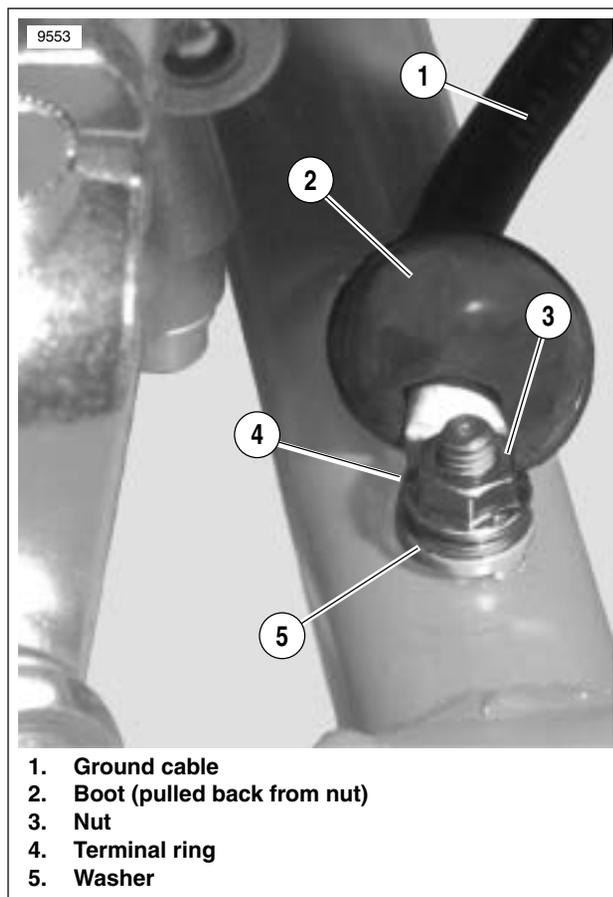

Figure 2-21. Ground Cable Installation
10. See Figure 2-21. Fasten ground cable (1) terminal ring (4) with washer (5) to frame. Tighten to 6-10 Nm (53-88 in-lbs) and reinstall rubber boot.